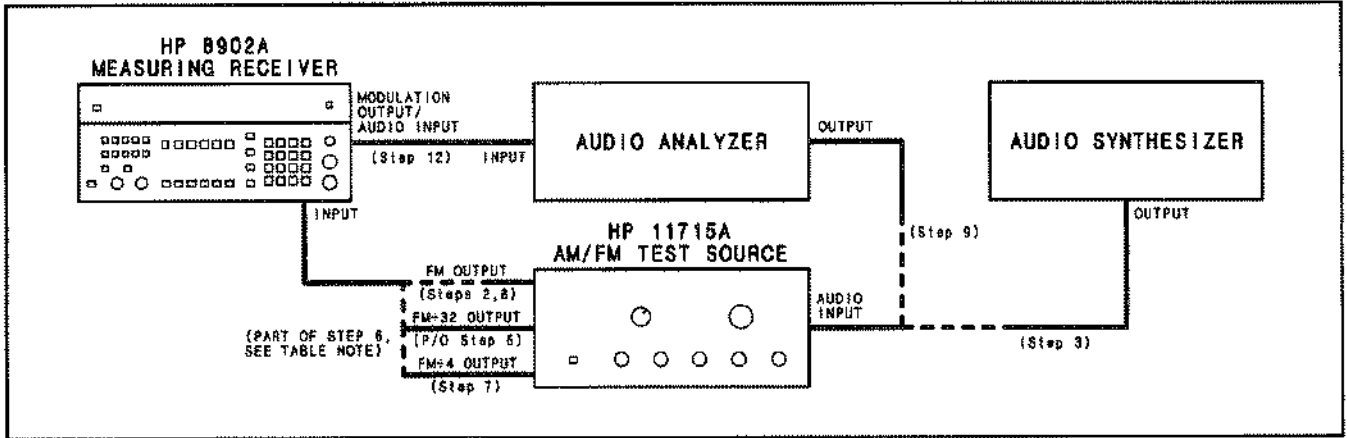

Figure 4-3. FM Performance Test Setup
2. On the AM/FM test source, set the test mode to FM. Connect its FM output to the Measuring Receiver's INPUT. (See Figure 4-3.)
3. Set the audio synthesizer to 200 Hz at -10 dBm. Connect its output to the audio input of the AM/FM test source. (See Figure 4-3.)
* Connect the FM÷32 output of the AM/FM test source to the Measuring Receiver's INPUT to make this measurement. (See Figure 4-3.) Press AUTOMATIC OPERATION, then MHz to retune the Measuring Receiver. If the resolution is not 0.001 rad, press Φ M again.
7. On the Measuring Receiver, key in 3.1 SPCL to set the IF to 455 kHz. Press FM. On the AM/FM test source, connect the FM÷4 output. (See Figure 4-3.) Set the audio synthesizer frequency as shown in the following table. Set the Measuring Receiver High Pass Filter as shown in the table. Set the audio synthesizer level to give the FM deviation shown in the table. After setting each FM deviation, press Φ M. For each setting, the Measuring Receiver's display should read between the limits indicated in the table.
- Connect the FM output of the AM/FM test source to the Measuring Receiver's INPUT. (See Figure 4-3.) Press AUTOMATIC OPERATION on the Measuring Receiver.
- Set the audio analyzer's oscillator to 1 kHz. Connect its output to the audio input of the AM/FM test source. (See Figure 4-3.)
12. Connect the audio analyzer's input to the Measuring Receiver's MODULATION OUTPUT/AUDIO INPUT. (See Figure 4-3.) Set the audio analyzer to measure the distortion on the 1 kHz signal at the MODULATION OUTPUT/AUDIO INPUT. Set the high-pass filter on the audio analyzer to 400 Hz. The distortion should be 0.1% (-60 dB) or less.